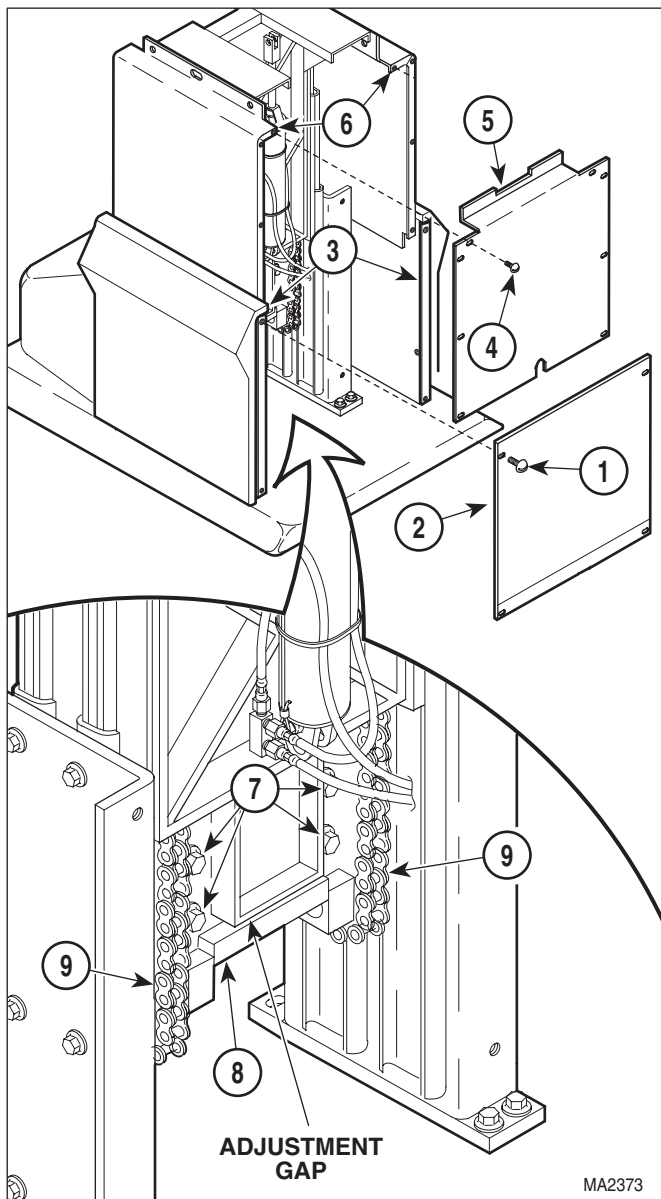

Figure 4-32. Chain Assembly Adjustment
- (1) Raise BASE UP function all the way up.
- (2) Unplug table power cord from outlet.
- (3) Remove four screws (1, Figure 4-32) and front outer shroud (2) from left and right hand outer shrouds (3).